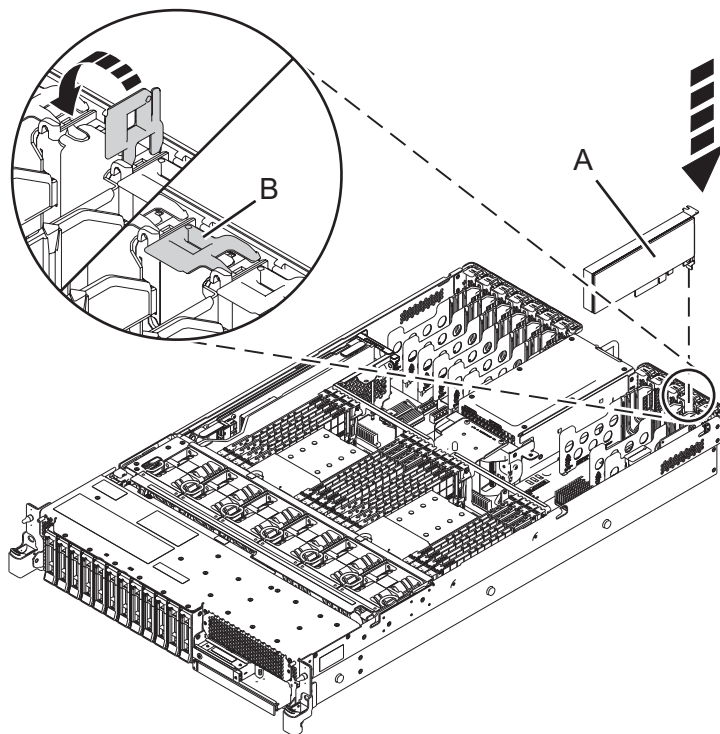

Figure 17. Installing or replacing a PCIe adapter in the 5148-21L, 5148-22L, 8247-21L, 8247-22L, 8284-21A, or 8284-22A system
5. If the adapter latch (**B**) at the target slot is not already in the open position, pull the latch into the open position by rotating the latch outwards from its clip on the back of the system, as shown in Figure 17 on page 30.
6. Carefully grasp the adapter by its top edge or tailstock, and align the adapter with the slot and its connector on the system backplane (A), as shown in Figure 17.
8. To lock the adapter in its slot, rotate the adapter latch (B) in the direction that is shown in Figure 17.